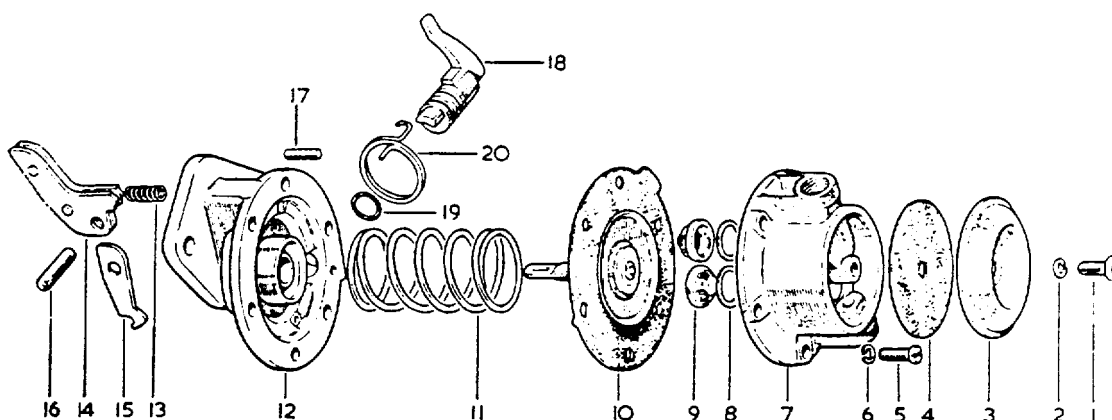

Fig. N.5.
4. The valves should be renewed unless in perfect condition. The two valves are identical and may be used for inlet or outlet (See Fig. N.5). It is advisable to renew the valve gaskets after dismantling.